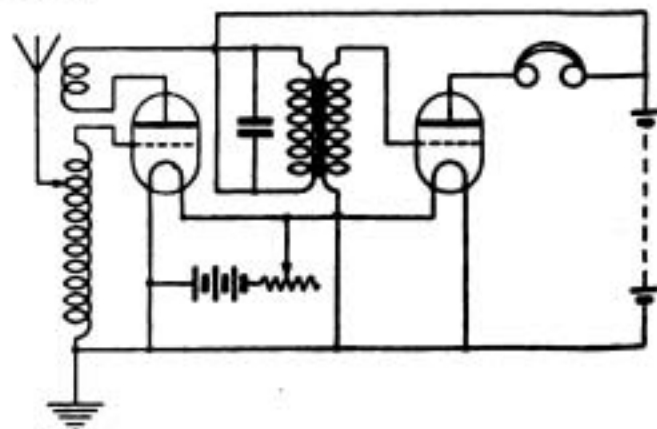

Fig. 3.
(1) 9" x 6" of No. 22. (2) Potentiometer is quite correctly wired in. It need not be added if zincite-bornite is used. (3) For the intervalve transformer use a core $\frac{1}{2}$ " x 4" of iron wires, with windings of 1 oz. and 3 ozs. of No. 44. An additional telephone transformer of normal type must be provided if L.R. telephones are to be used. (4) Up to about 30 or 40 miles from a broadcasting station. This set is unsuitable for 2 MT or PCGG at the distance. The circuit of Fig. 3, page 501, July 15th issue, is much better.
(1) We cannot say how your panel is wired up, but it might be wired as in the diagram (Fig. 3), which gives the complete circuit as requested. (2) It should do so on the new power to be used.